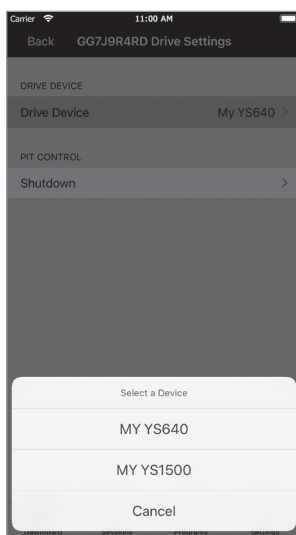
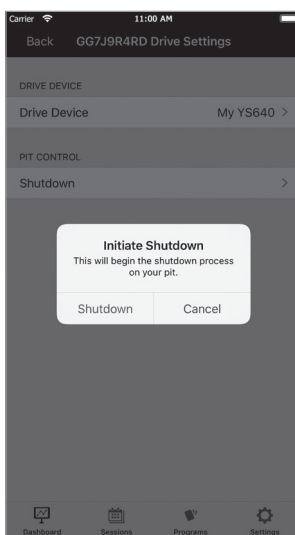

FIG 38
FIG 39
- Tapping the small wrench icon in the upper right of the gray bar will take you to a section that allows you to choose between multiple cookers (if you have more than one paired to your mobile device) (FIG 38) and also allows you to shut down your cooker (FIG 39).